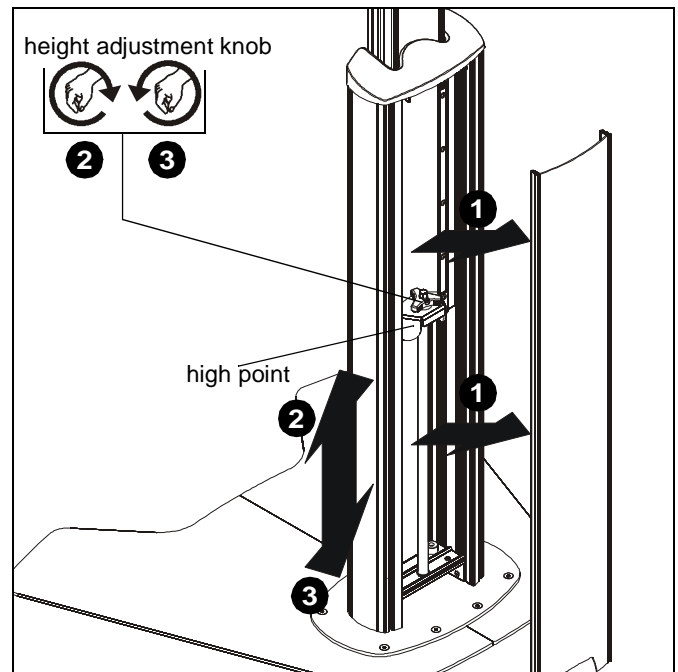

Figure 11
- Remove cable cover (G) to expose height adjustment knob.
- Turn height adjustment knob clockwise to raise display. (See Figure 11)
**WARNING:** Do not attempt to raise or lower the adjustment carriage beyond its upper or lower limit. High and low points are shown in Figures 11 and 12.
- Reinstall cable cover (G) to column assembly.